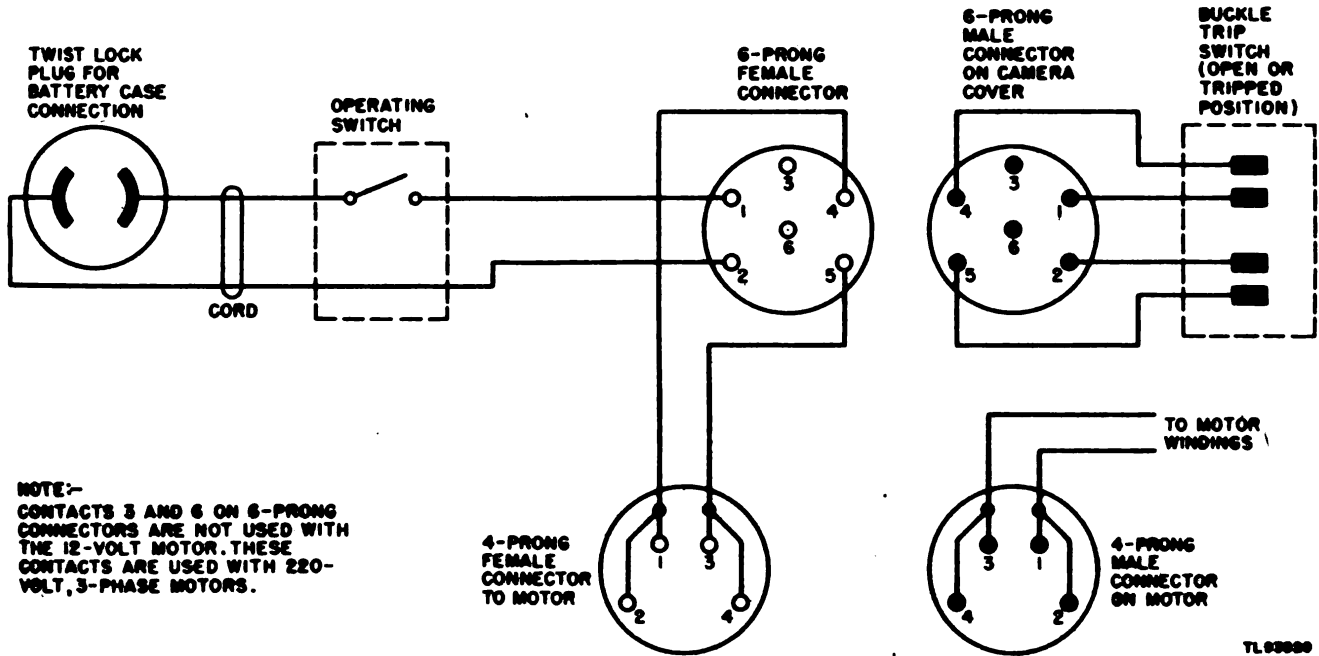

Figure 113. Wiring diagram.
c. ELECTRICAL SYSTEM (fig. 113). Power to run the camera is provided by a 12-volt storage battery which is connected by rubber-covered cables and connectors to the motor and to the buckle trip switch inside of the camera box. An operating switch cut into the main feed cable near the camera